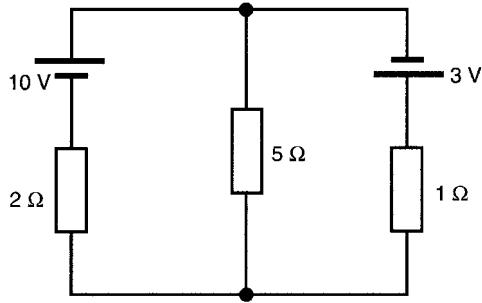

Figure A4.1
- 1 Find the current flowing in the 5Ω resistor of the circuit shown in Fig. A4.1 using